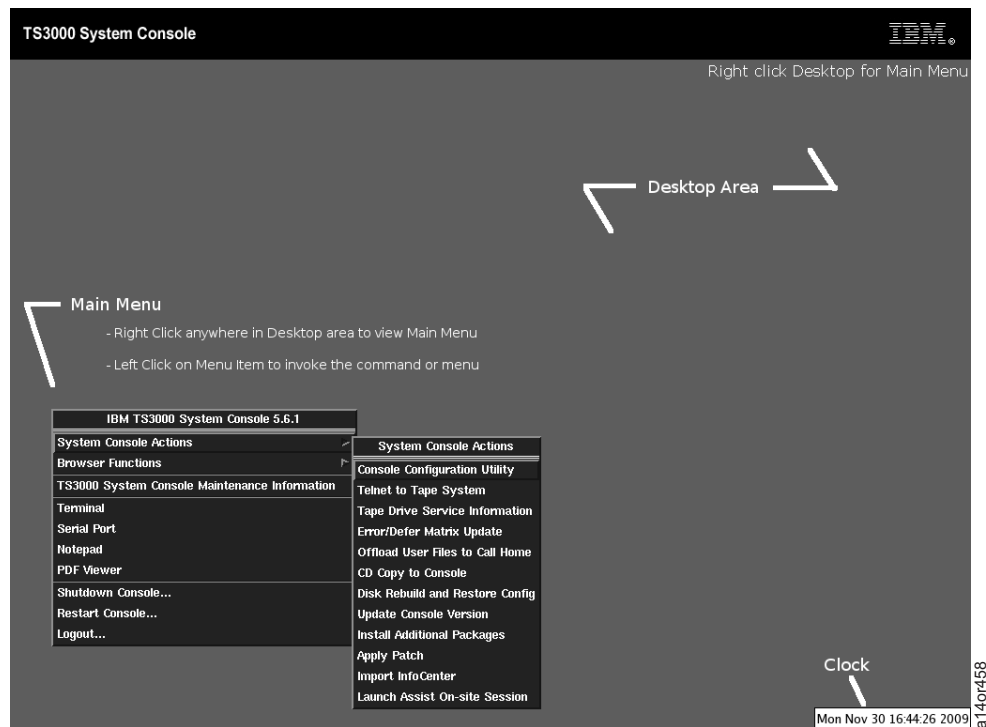

Figure 2-43. System Console Main Menu. Notice that the System Console Main Menu appears after you right click inside the Desktop Area.
5. Login to the console using the ID and password posted on the screen. The System Console Main Menu shown in Figure 2-43 appears.
1. Right click from anywhere in the Desktop to view the Main Menu shown in Figure 2-43.